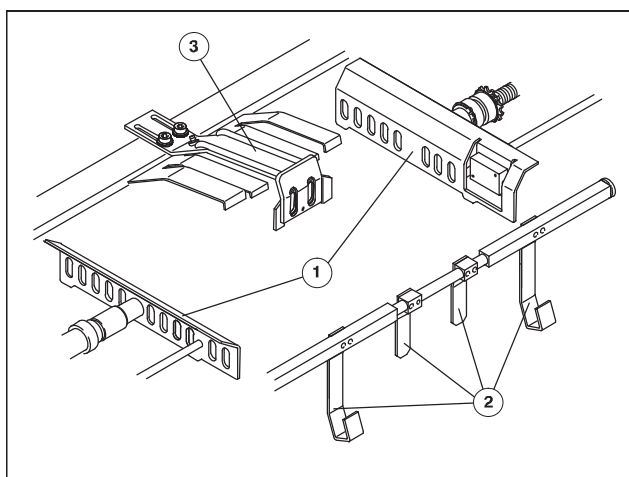
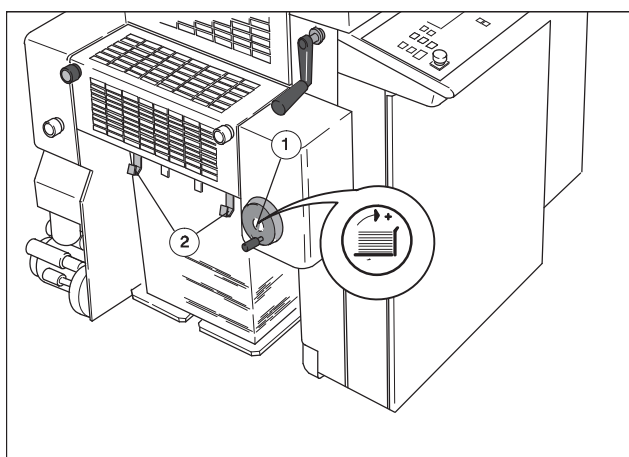

Fig. 2 Delivery sheet stops
Fig. 3 Delivery sheet size adjustment
The lateral sheet stops (Fig. 2/1) are adjusted to the sheet width **simultaneously with the central sheet size adjustment** at the feeder.
2. Place the press sheet at the front sheet stops (Fig. 2/2).
3. Adjust the rear sheet stop (Fig. 2/3) to the sheet length using the crank handle (Fig. 3/1).
1. Raise the front sheet stops (Fig. 3/2).
3. Fold down the front sheet stops (Fig. 3/2).
5. Adjust the rear sheet stop (Fig. 2/3) to the sheet length using the crank handle (Fig. 3/1).